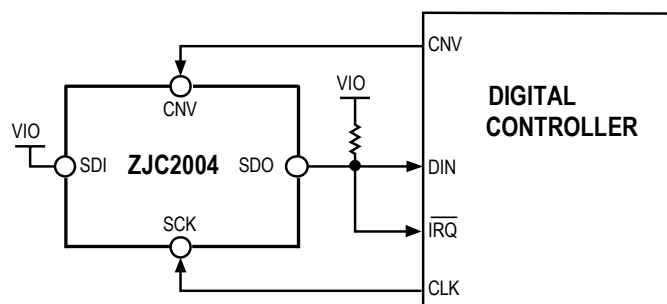
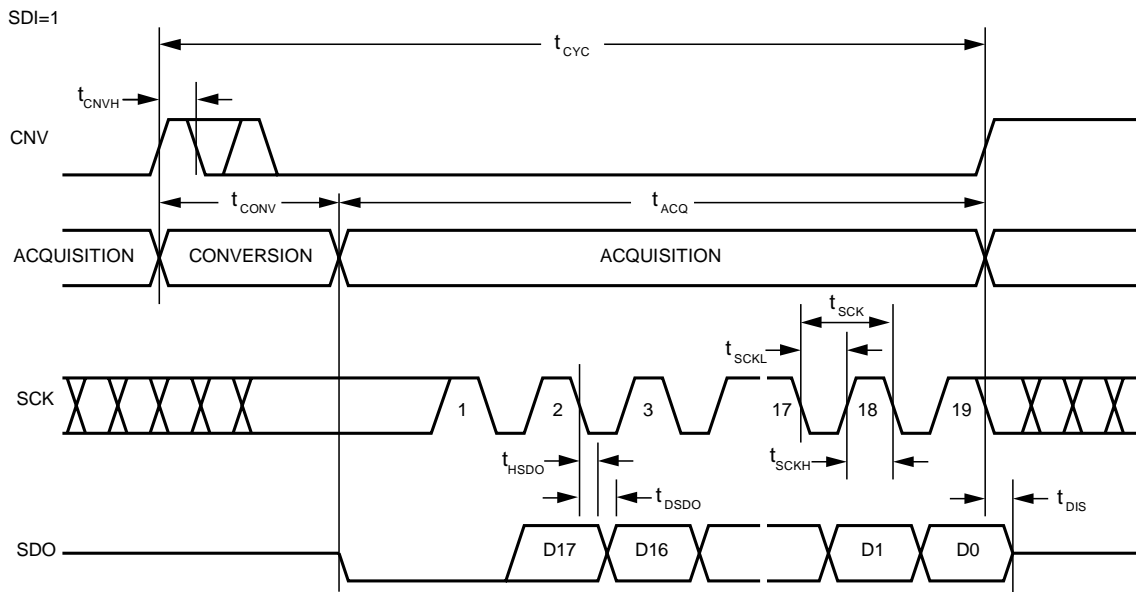
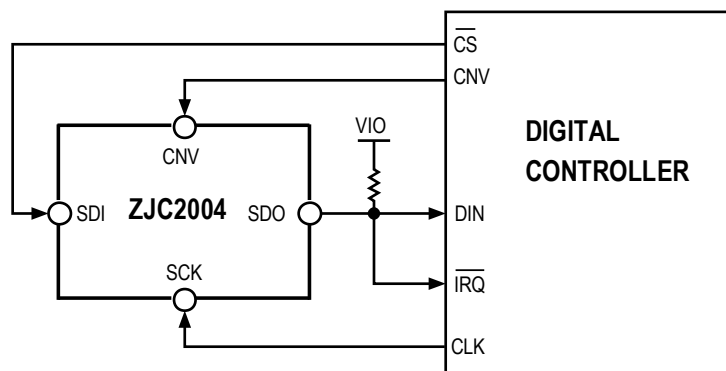
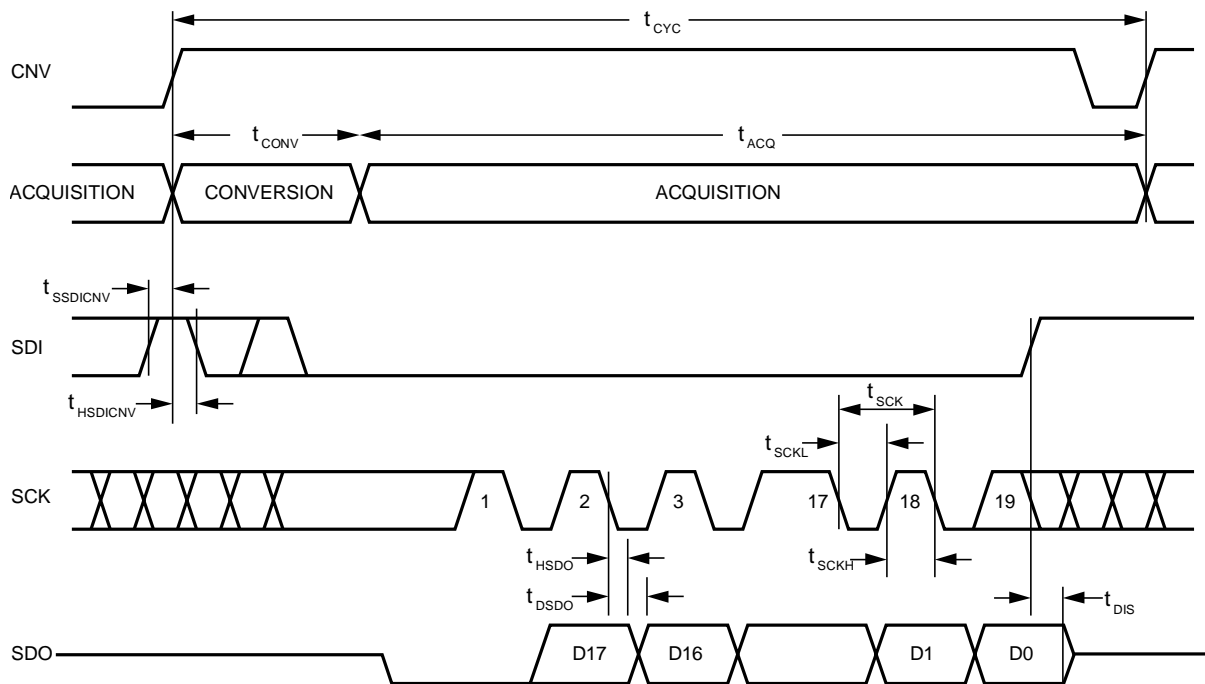

Figure 38. Chip select mode (three-wire type with busy indication) connection diagram
Figure 39.  $\overline{\text{CS}}$  Mode (3-Wire with Busy Indication) Serial Interface Timing
Figure 42.  $\overline{\text{CS}}$  Mode (4-Wire with Busy Indication) Connection Diagram
Figure 43.  $\overline{CS}$  Mode (4-wire with Busy Indication) Serial Interface Timing
- In  $\overline{\text{CS}}$  mode, CNV or SDI is low at the end of ADC conversion (see Figure 39 and Figure 43).
This mode can be used when a single ZJC2004 is connected to an SPI-compatible digital host with an interrupt input. The connections are shown in Figure 38 and the corresponding timing is shown in Figure 39.
The connection is shown in Figure 42 and the corresponding timing is shown in Figure 43.